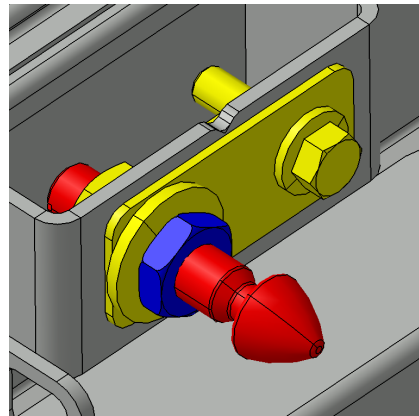

FIGURE 133
7. Use the pin to adjust the door so it is even with the adjacent steel sheet. Screw or unscrew the pin as required and then apply final tightening to the jam nut (FIGURE 133).